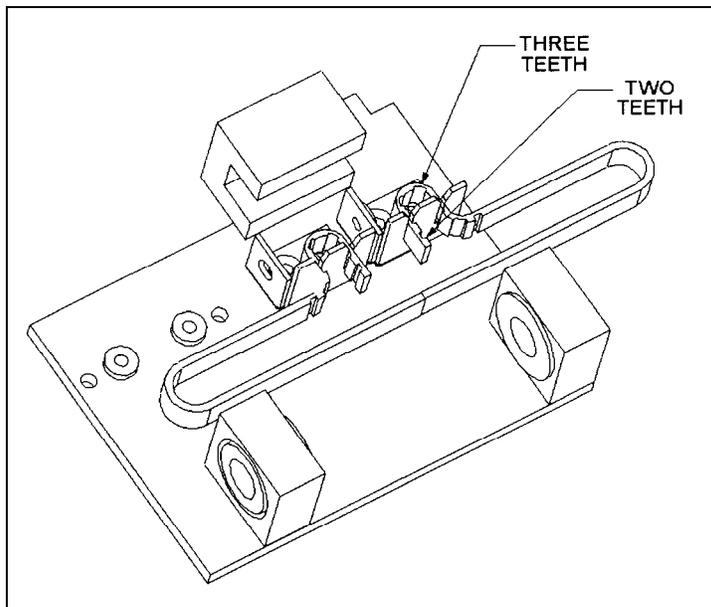

Figure 13-23 Mounting the Z-Drive Belt
- 5 Insert a new timing belt (Part No. 32000600). The belt should have three teeth in each loop and two teeth protruding from the end as shown in Figure 13-23.